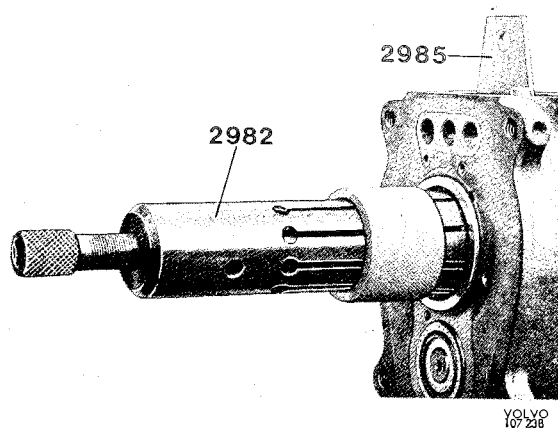

Fig. 4-15. Input shaft removal
7. Remove the circlip and pull off the bearing for the input shaft with puller 2982, see Fig. 4-15. Remove counterhold 2985.